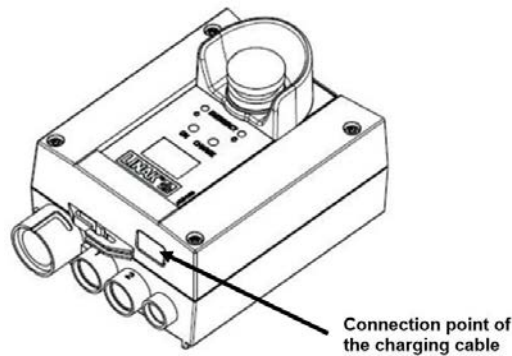

Figure 15 – Connecting the charging cable
- Connect the power cord to the control box (Figure 15).